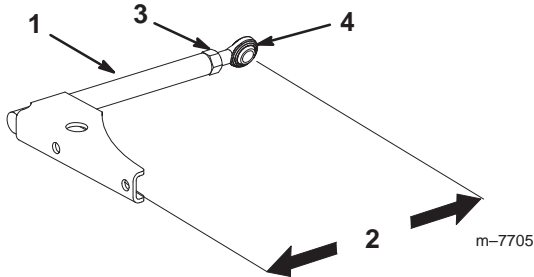

Figure 55
1. Loosen the jam nut and rotate the ball joint counterclockwise, one turn at a time.(Fig. 55).
2. Adjust each side the same amount. Each push arm should have a nominal length of 13-1/2 inch (34 cm) at a 15-degree twist (Fig. 55).